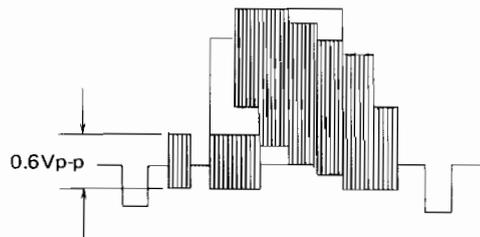

Fig. 2-14 Colour Output Waveform
3. Adjust VR6F1 (COLOUR OUT) for a burst level of 0.6Vp-p as shown in Fig. 2-14.